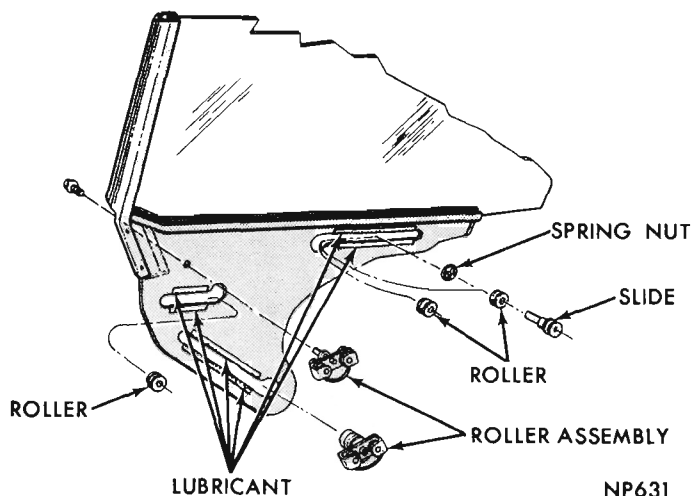
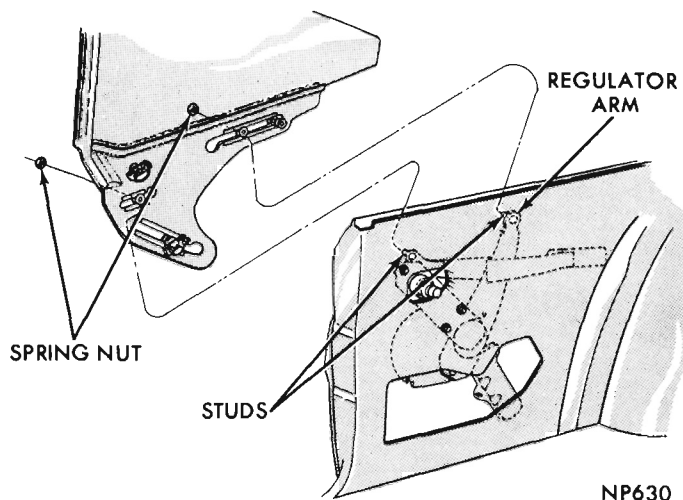

Fig. 11 - Quarter Glass Assembly-Hardtop
Fig. 10 - Quarter Glass Replacement-Hardtop and tighten nuts.
- (1) With glass in mid-position, remove spring nuts from regulator arm studs (Fig. 10) and studs from rollers.
- (2) Remove up-stops from lower frame.
- (3) Remove glass assembly from door.
- (4) Remove slide and roller from glass frame rear track and roller assemblies from tracks in front section (Fig. 11).